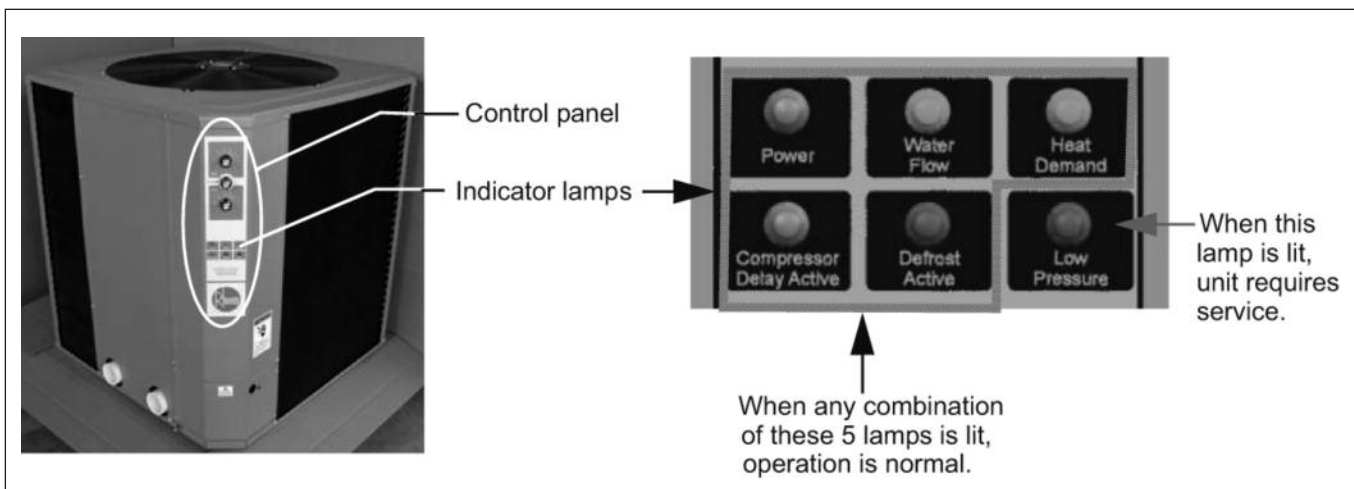

Fig. 3: Indicator Lamps — Analog Models
**Indicator Lamps:** There are 6 indicator lamps located on the unit control panel (see Fig. 3 below):